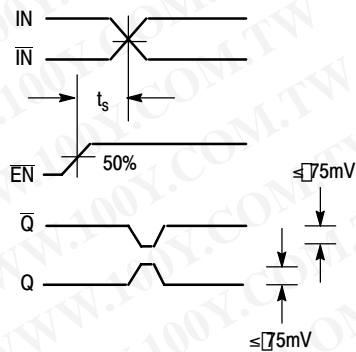

Figure 3. Setup Time
17. The setup time is the minimum time that EN must be asserted prior to the next transition of IN/ $\bar{IN}$  to prevent an output response greater than  $\pm 75\text{ mV}$  to that IN/ $\bar{IN}$  transition (Figure 3).